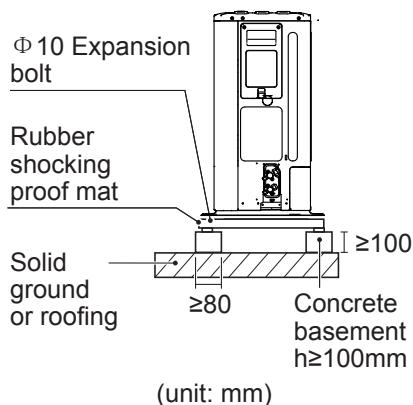

Fig: 6-3
- If water does not easily drain from the unit, mount the unit on a foundation of concrete blocks, etc. (the height of the foundation should be about 100 mm. (in Fig:6-3)